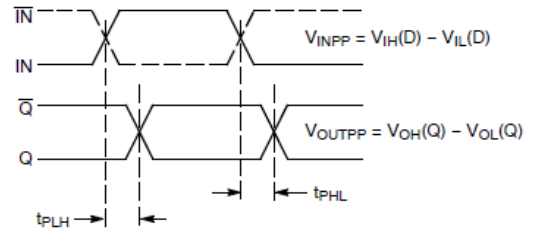

Figure 10. AC Reference Measurements
**Table 6. AC CHARACTERISTICS**  $V_{DD} = 2.5\text{ V} \pm 5\%$  or  $3.3\text{ V} \pm 10\%$ ;  $GND = 0\text{ V}$ ;  $T_A = -40^\circ\text{C}$  to  $85^\circ\text{C}$  (Note 12) (Figure 10)